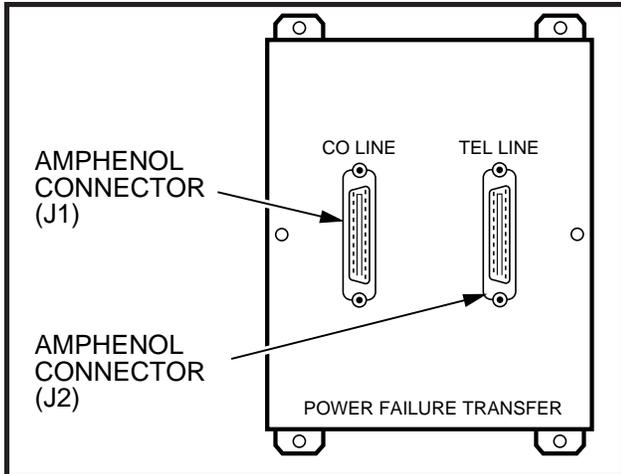

FIGURE 2-8
5.00 The DPFT provides an optional means of ensuring uninterrupted telephone operation in the event of a power failure. The DPFT (Figure 2-8) automatically connects selected CO lines to standard telephone lines in the event of a power failure, while permitting normal operation when the system is in service.